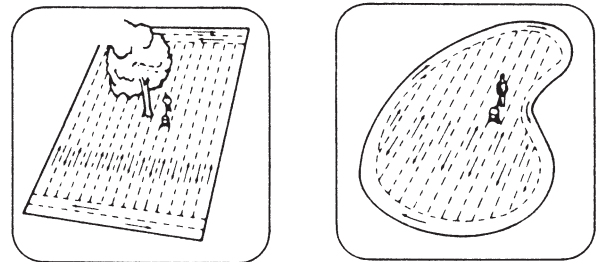

FIGURE 6
3. For easiest application, spread across the shortest edges of lawn first, making two "header" strips for a turning area, and then spreading between the header strips. See figure 6.
4. If lawn is odd shaped, spread a border around the edges and then spread between the border. See figure 6.